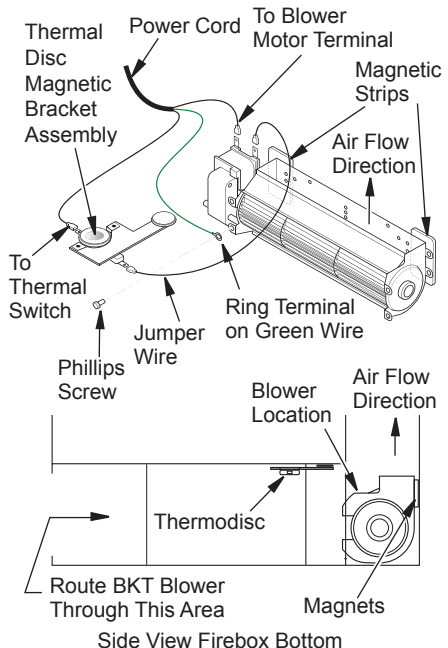

Figure 28 - Blower Model BKT
1. Attach green ground wire from power cord to blower housing using screw provided (see Figure 28) Tighten screws securely with a Phillips screwdriver.
- the exhaust port directed upward. Attach Thermal disc magnetic bracket to the bottom of the firebox sub-floor. The thermo-disc must be oriented near the fireplace bottom as shown in Figure 6, in order to sense temperature and properly operate. The blower will be held in position against the back wall by the magnets incorporated onto the blower housing (see Figure 28).